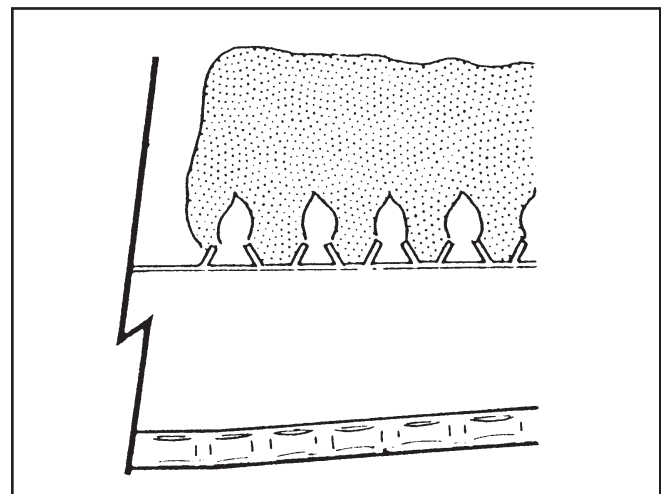

Figure 23. Main Burner Flame
- b. 1 to 4 inches (25mm to 102mm) above burner surface (see Figure 23).